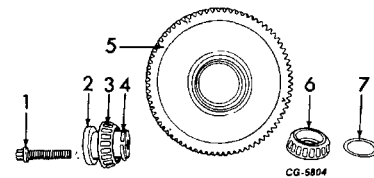

Figure 17. - Gear and Component Parts (Idler Gear Shown)
- c. Stub shaft; as shown in Fig. 17